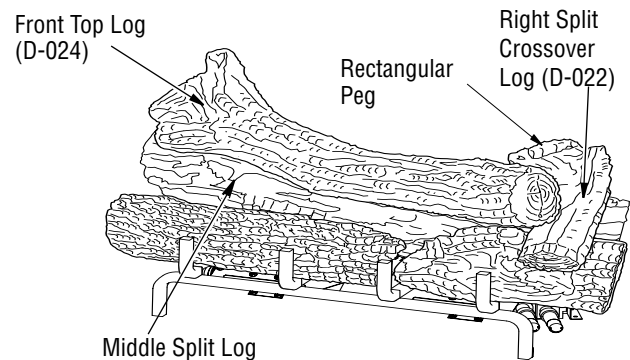

Figure 22 - Installing Large Middle Log
- For SouthernComfort logs, find the front top log (D-024). See **Figure 22**. The left end of this log has a square hole that fits over a square peg that is on the top of the middle split log. The right end of this log rests behind the knot on the top of the front right log.